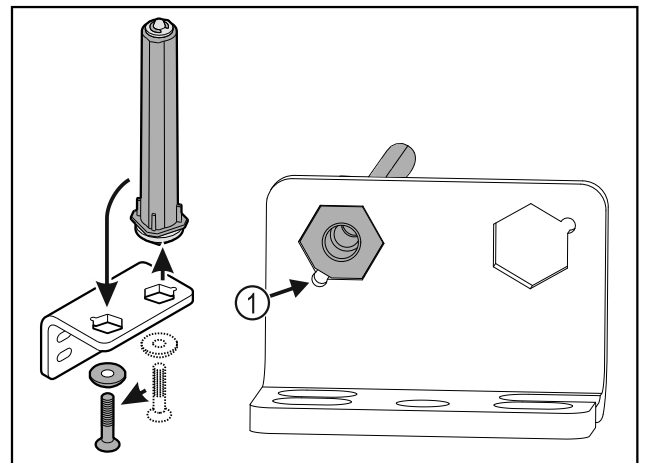

Fig. 35
- ▶ Make sure the pin chamfer Fig. 35 (1) faces the round hole when you put it in.